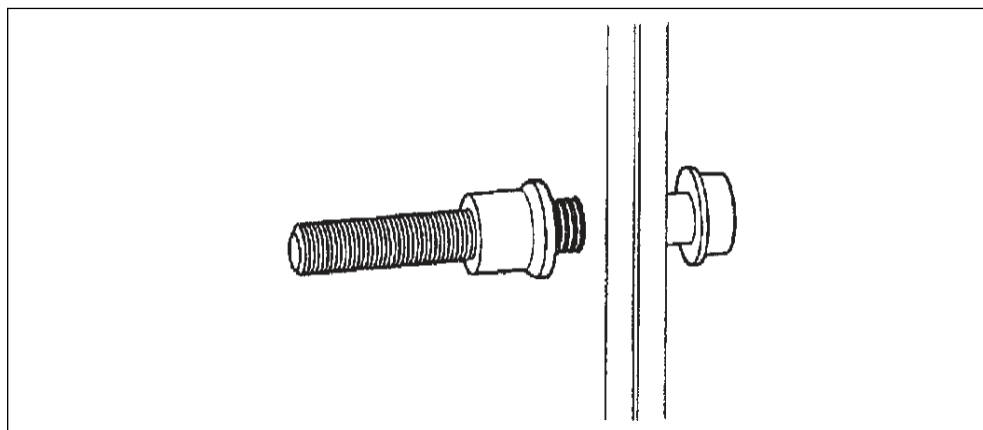

Figure 1.9 Place Collar Over Fastener Pintail
- 2) Place the collar over the fastener pintail (See Figure 1.9)